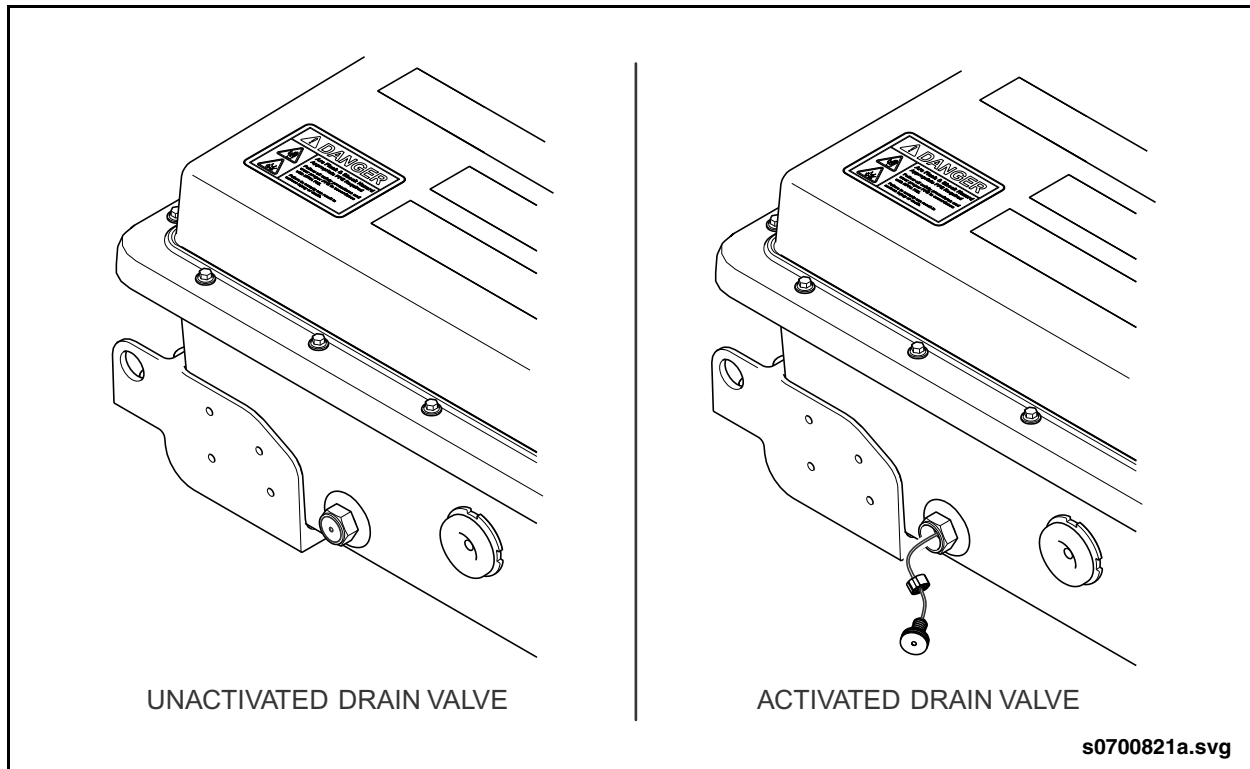

Fig. 2: ESS Enclosure Drain Valve Inspection
3. Gain access to all rooftop and rear ESS enclosures and inspect the four (4) drain valves on each ESS enclosure. Visually inspect drain valve to ensure it is in the unactivated condition, with the piston face flush with the valve body and not protruding beyond the valve body. See “Fig. 2: ESS Enclosure Drain Valve Inspection” on page 4.